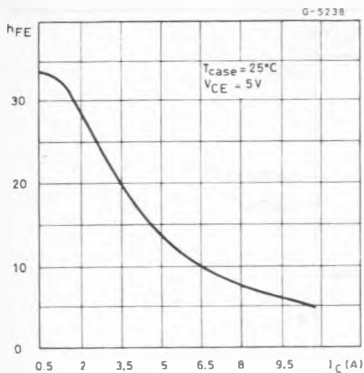

Figure 1 : Switching Times Test Circuit on Inductive Load, with and without Antisaturation Network.
**INDUCTIVE SWITCHING TIMES** (fig. 1)
Switching Times Inductive Load (see fig. 1).
Fall Times vs. Lb (see fig. 1).